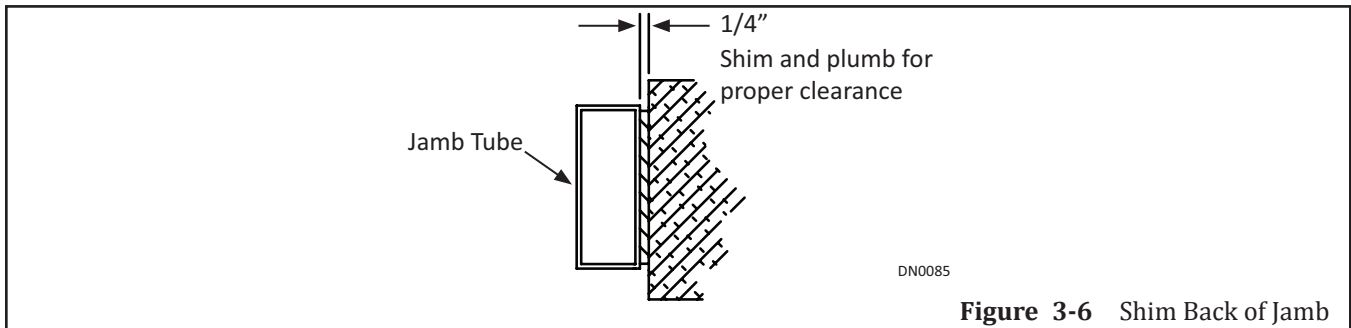

Figure 3-6 Shim Back of Jamb
2. Plumb Jamb tubes in both planes to ensure the rough opening allows a 1/4 inch clearance. Please see Figure 3-6.